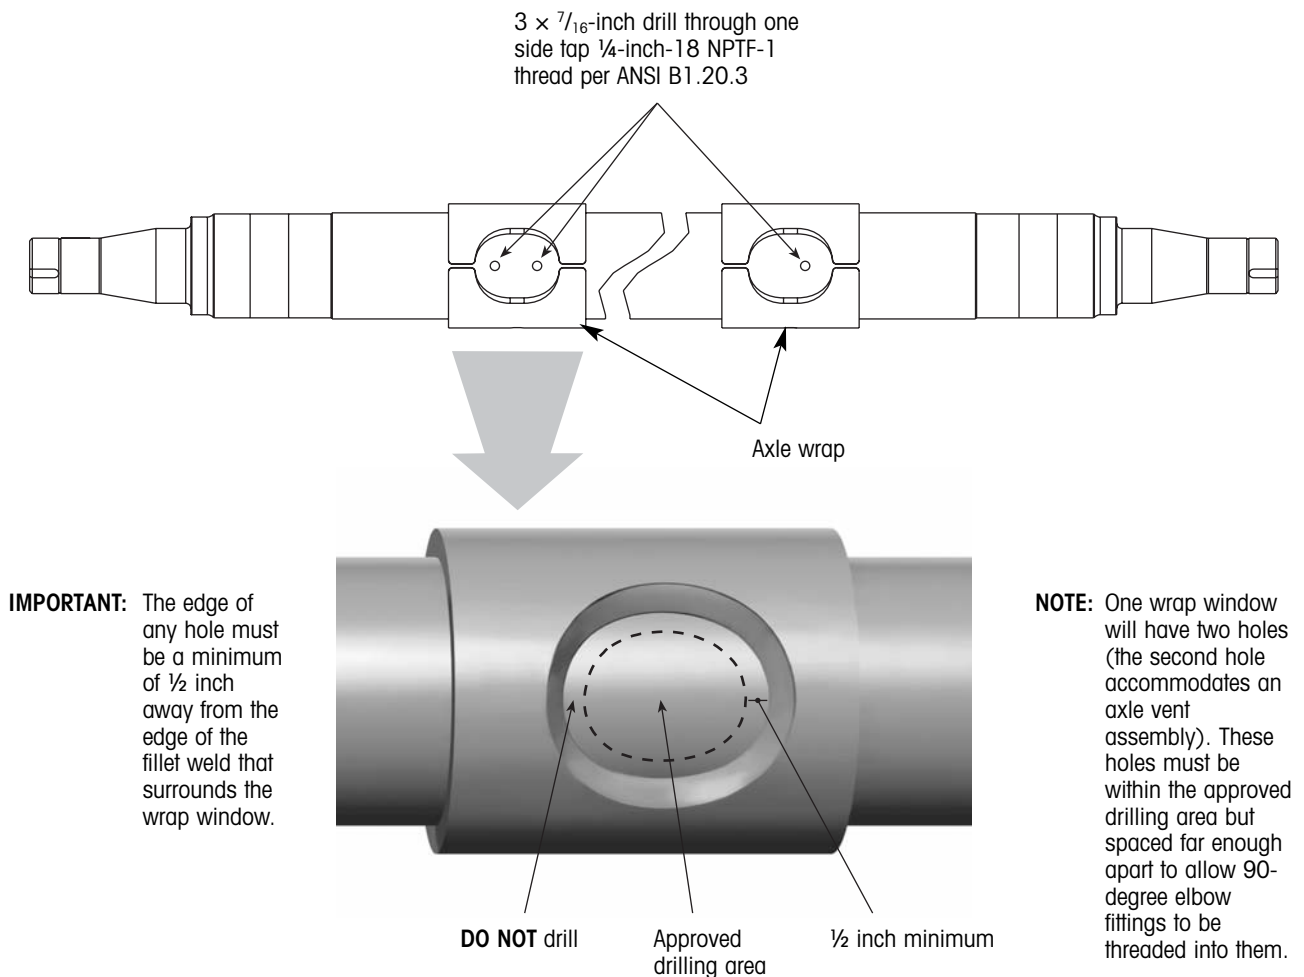

Figure 6. INTRAAX / VANTRAAX suspension axle drilling details
10. Using the information in figure 6 or 6a, drill and tap three 1/4-inch - 18 NPT holes in the axle wrap windows (on INTRAAX and VANTRAAX suspensions) or at the midpoint of the axle (on Hendrickson Trailer Axles) to prepare for component installation.